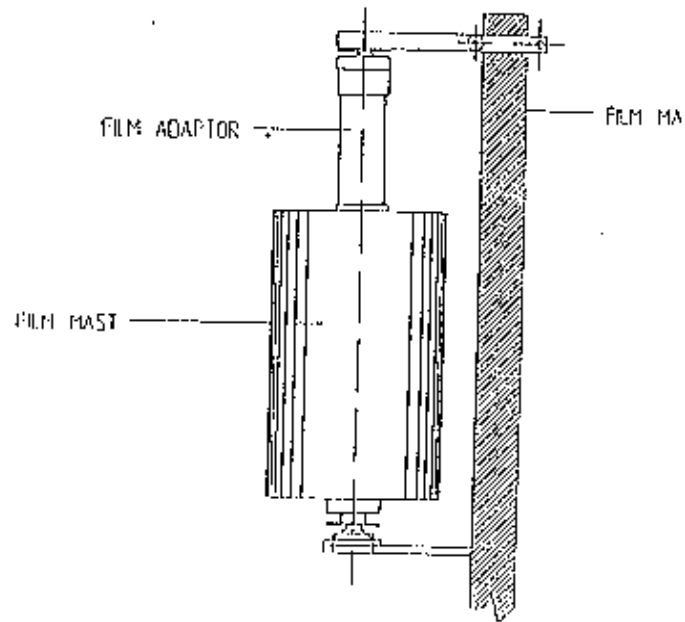

Fig 1
1. Fit film adaptor to top end of 500mm wide film roll as shown opposite (Fig. 1).